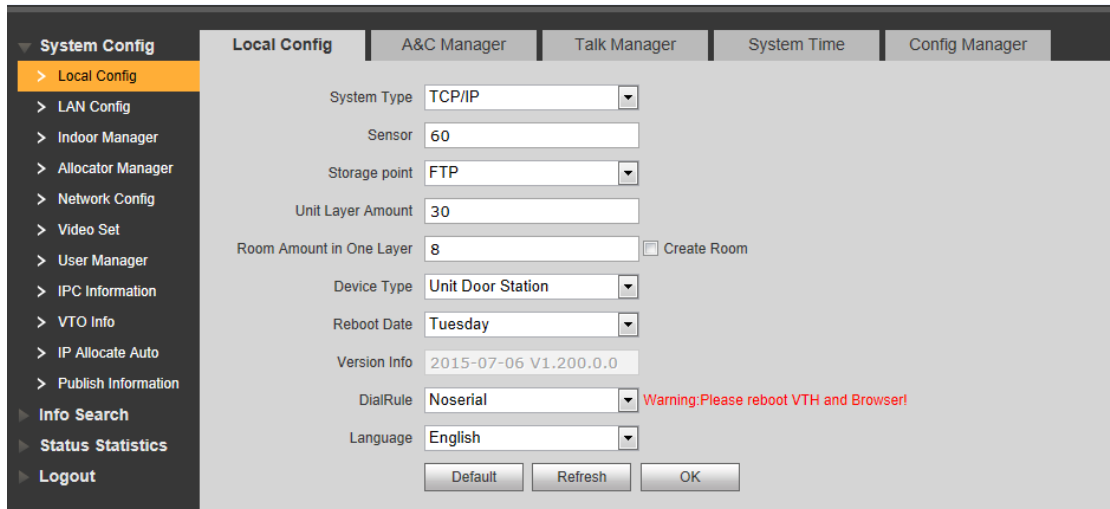

Figure 6- 4
Step 2. Set parameter. See Figure 6- 4.